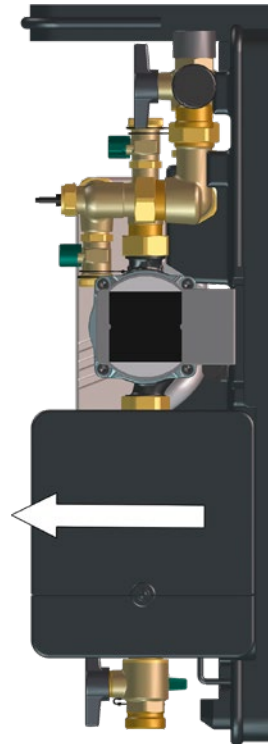

Fig. 20: Removal of the controller from the lower shell
- 1 Carefully pull the controller off the lower shell as shown in Fig. 20 on page 27.
- 11 Put the controller back from the mounting position to the operation position (see Fig. 20 on page 27).